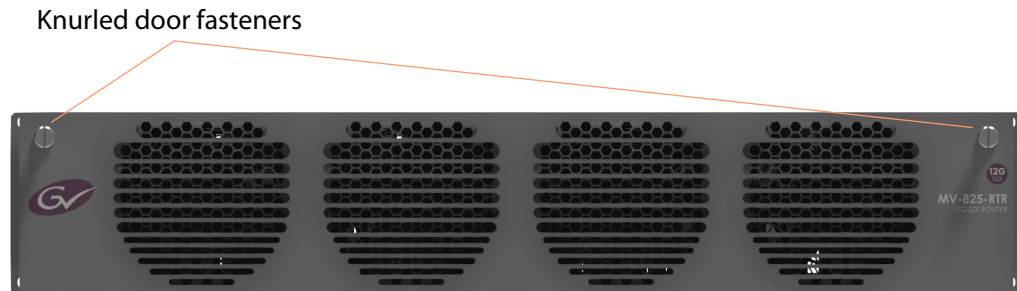

Fig. 2-2: MV-825-RTR Front View, Door Closed
The front door has two knurled fastening screws and a grille, behind which are fitted four fans which draw air in at the front, see Figure 2-2.
- 1 Unscrew the two captive knurled door fasteners, see Figure 2-2.